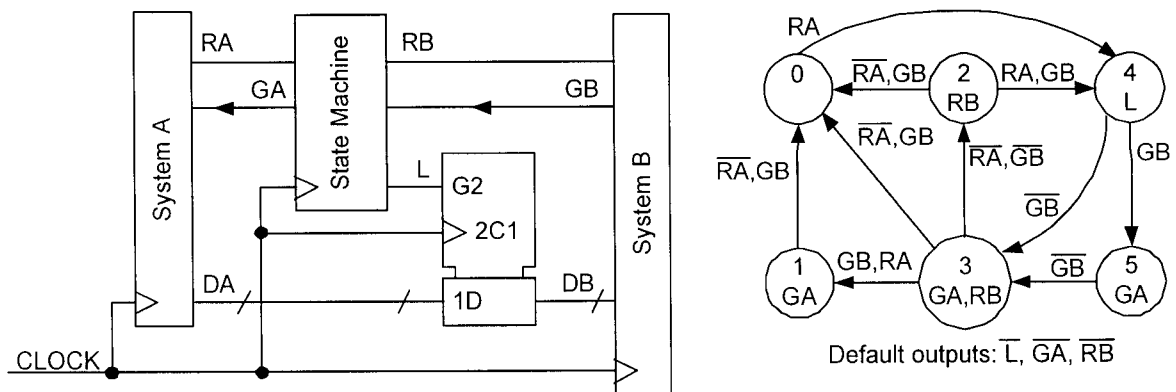

Figure 2.1
2. The circuit of *Figure 2.1* forms the interface between two systems, A and B, and consists of a register and a synchronous state machine whose state diagram is as shown. The signals RA and GA control the flow of data from System A to the register as follows: (i) System A sets RA=1 when new data is available at DA, (ii) the state machine then sets GA=1 to confirm that the data has been stored in the register, (ii) System A responds by setting RA=0 and finally (iv) the state machine sets GA=0. The signals RB and GB control the flow of data to System B in a similar manner. The signal L goes high to enable loading of the register on the following CLOCK rising edge. All signal transitions occur slightly after the rising edge of CLOCK.